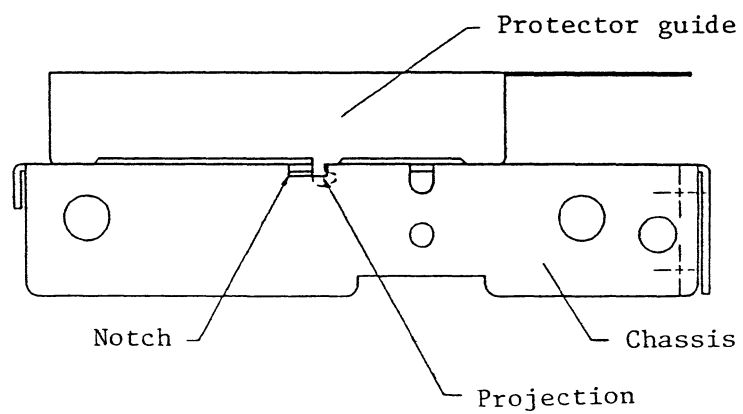

Fig.408 How to attach the protector guide
- (a) The projection of the protector guide is to be engaged exactly with the notch of chassis (Fig. 408).